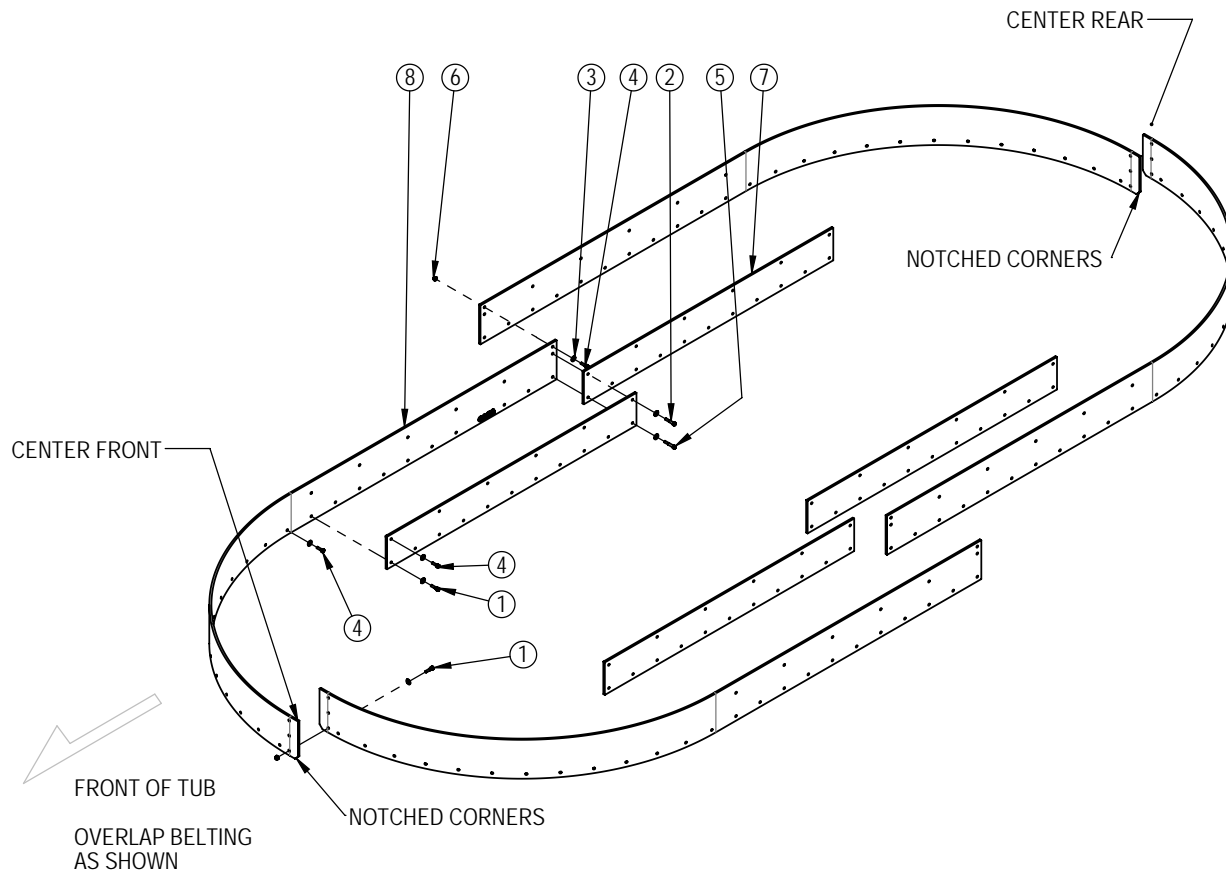

Figure 1: 6" Tub extension diagram
Refer to *Figure 1* and *Table 1* throughout this instruction.
1. Install the 4 longer outer rubber rings (8) to the inside ring of the tub wall.
- b. Fasten the left and right rear rubber rings onto the tub wall, starting from the center rear, using 14 of  $\frac{3}{8}$ " x 1- $\frac{1}{4}$ " hex bolts, flat washers (3) against the bolt head, and flange lock nuts (6).
- c. Overlap the notched ends of the outer rings as shown in *Figure 1*.
- d. Fasten the overlapped portions to the inside ring of the tub wall with  $\frac{3}{8}$ " x 1- $\frac{1}{2}$ " hex bolts (1), flat washers (3) against the bolt head, and flange lock nuts (6).
- e. Fasten the right and left front rubber rings onto the tub wall, starting from the center rear, using 14 of  $\frac{3}{8}$ " x 1- $\frac{1}{4}$ " hex bolts, flat washers (3) against the bolt head, and flange lock nuts (6).
- f. Overlap the notched ends of the outer rings as shown in *Figure 1*.
- g. Fasten the overlapped portions to the inside ring of the tub wall with  $\frac{3}{8}$ " x 1- $\frac{1}{2}$ " hex bolts (1), flat washers (3) against the bolt head, and flange lock nuts (6).
- h. At this time, do not place fasteners where the inner rubber belting (7) will attach.
2. Overlap the longer outer rubber rings at the middle of the tub, as shown in *Figure 1*.
3. Fasten the top of the outer rubber rings with  $\frac{3}{8}$ " x 1- $\frac{1}{4}$ " hex bolts (4), flat washers (3) against the bolt head, and flange lock nuts (6).
4. Install the 4 shorter inner rubber belting pieces (7).
- a. Place the inner rubber belting pieces (7) on the inside of the outer rubber rings (6), as shown in *Figure 1*.
- b. At the middle of the tub, fasten the bottom of the 4 overlapping pieces (outer and inner rubber belting) to the tub wall with  $\frac{3}{8}$ " x 2- $\frac{1}{4}$ " hex bolts (5), flat washers (3) against the bolt head, and flange lock nuts (6).
- c. At the middle of the tub, fasten the top of the inner rubber belting to the middle of the outer rubber ring and tub wall with  $\frac{3}{8}$ " x 2" hex bolts (2), flat washer against the bolt head and flange lock nuts.
- d. Install the remaining fasteners into the right front and rear rubber extensions, as shown in *Figure 1*.
- e. Install the remaining fasteners into the left front and rear rubber extensions, as shown in *Figure 1*.